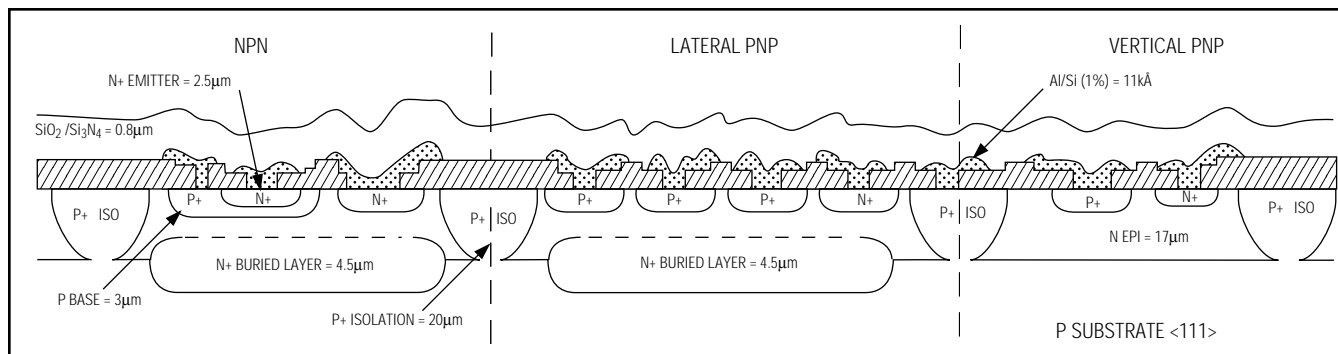

Figure 7. Bipolar Process
### (7) BIP (Refer to Figure 7)